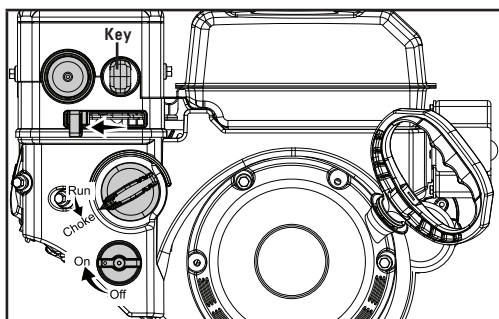

Figure 12A
1. Make sure the engine safety key is inserted into the key hole (Fig. 12A).
2. Move the fuel valve lever to the on position (Fig. 12A).
- a. To start a cold engine, move the choke lever to the choke position (Fig. 12A).